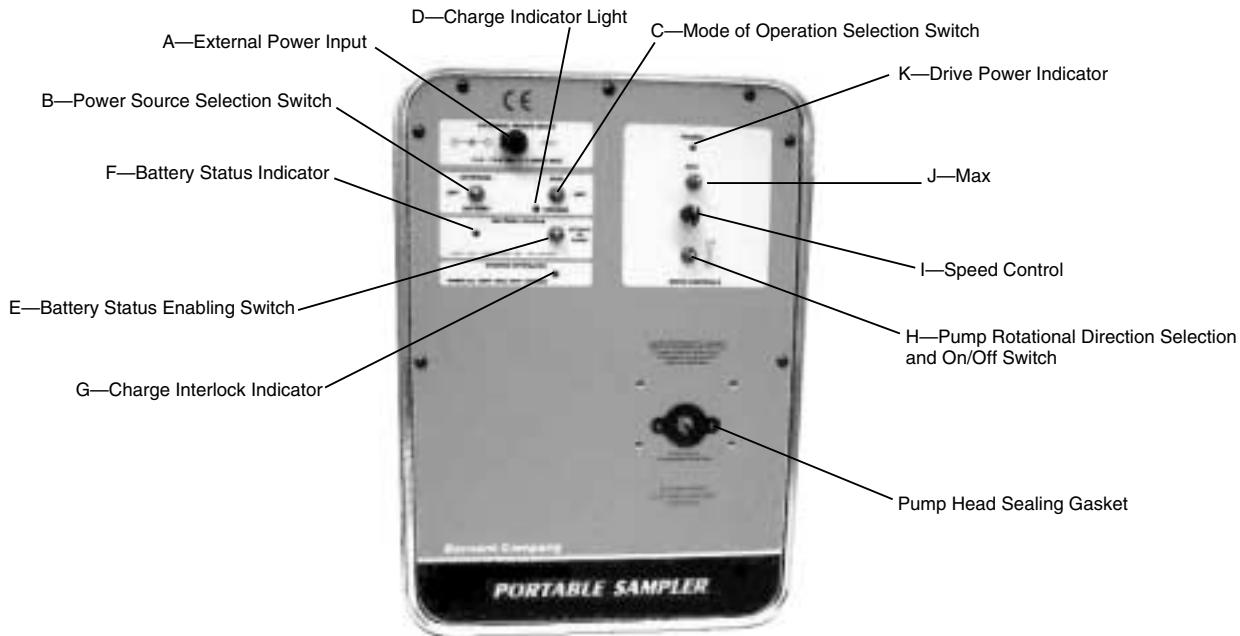

FIGURE 1 CONTROL PANEL
- A. **Connect the supplied AC/DC Power Supply/Converter to drive** by lifting **EXTERNAL POWER INPUT (A)** receptacle cover and inserting the 2.5 mm coaxial power jack into the receptacle. (See Figure 1.)
- A. Place the Power Source Selection Switch (B), (EXTERNAL/BATTERY) to the “BATTERY” position.
- B. Place the Mode of Operation Selection Switch (C), (RUN/CHARGE) to the “RUN” position.
- C. Select Pump Rotational Direction Selection On/Off Switch (H), CW or CCW. (See Figure 1.) (When changing directions, turn off the power first, which is the center or OFF position of the Rotational Direction Switch.)
- D. Adjust pump flow rate with the 1-turn Speed Control (I), by turning the knob CW to increase flow rate or CCW to decrease flow rate.
- E. To “Prime the Tubing”, toggle the “MAX” Switch (J), up or down to make the pump run at maximum speed.
- A. Place the Power Source Selection Switch (B), (EXTERNAL/BATTERY) to the “EXTERNAL” position.
- A. Connect the supplied AC/DC Power Supply/Converter to drive by lifting the EXTERNAL POWER INPUT (A), receptacle cover and inserting the 2.5 mm coaxial power jack into the receptacle. (See Figure 1.)
- B. Connect AC/DC Power Supply/Converter to an AC power source. Place the Power Source Selection Switch (B), (EXTERNAL/BATTERY) to the “EXTERNAL” position.
- C. Place the Mode of Operation Selection Switch (C) (CHARGE/RUN) to the “RUN” position.
- D. Select Pump Rotational Direction Selection On/Off Switch (H), CW or CCW. (See Figure 1.) (When changing directions, turn off the power first, which is the center or OFF position of the Rotational Direction Switch.)
- E. Adjust pump flow rate with the 1-turn Speed Control (I), by turning the knob CW to increase flow rate or CCW to decrease flow rate.
- F. To “Prime the Tubing”, toggle the “MAX” Switch (J), up or down and hold to make the pump run at maximum speed.
- A. Connect the supplied AC/DC Power Supply/Converter by lifting the **EXTERNAL POWER INPUT (A)**, receptacle cover and inserting the 2.5 mm coaxial power jack into the receptacle. (See Figure 1.)
- C. Place the Mode of Operation Selection Switch (C) (**CHARGE/RUN**) to the “**CHARGE**” position.